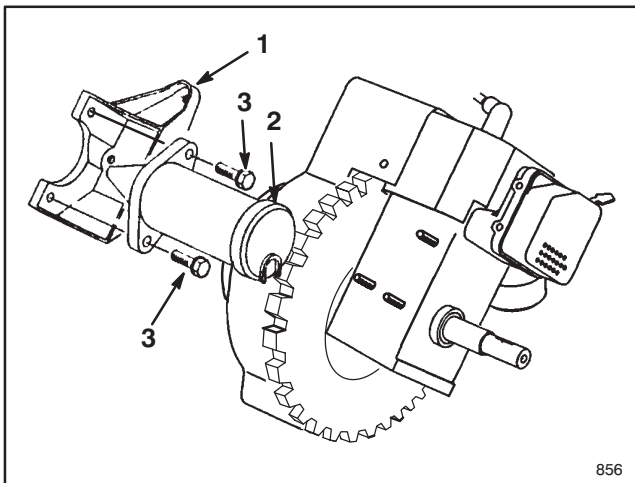

Figure 6
8. Remove (2) two screws securing starter motor to motor mounting bracket (Fig. 6). Discard motor and (2) two screws.